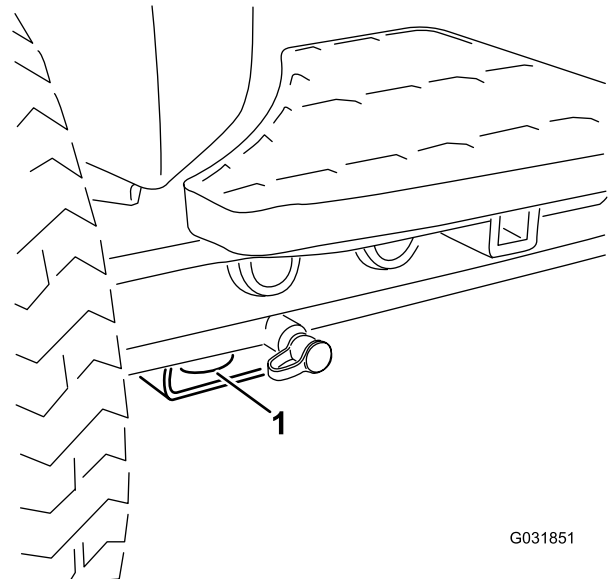

Figure 35
- **Front of the machine**—the hole in the rectangular pad, under the axle tube, inside each front tire (Figure 35).